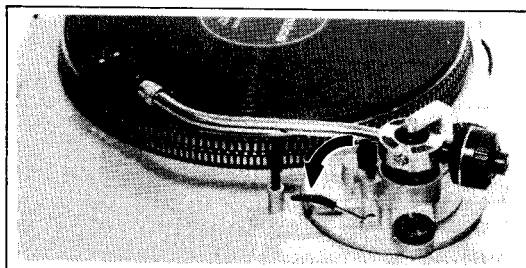

Fig. 3
7. Set the cueing lever to the down position. (See Fig. 3.) The tonearm will descend slowly onto the record and play will begin.